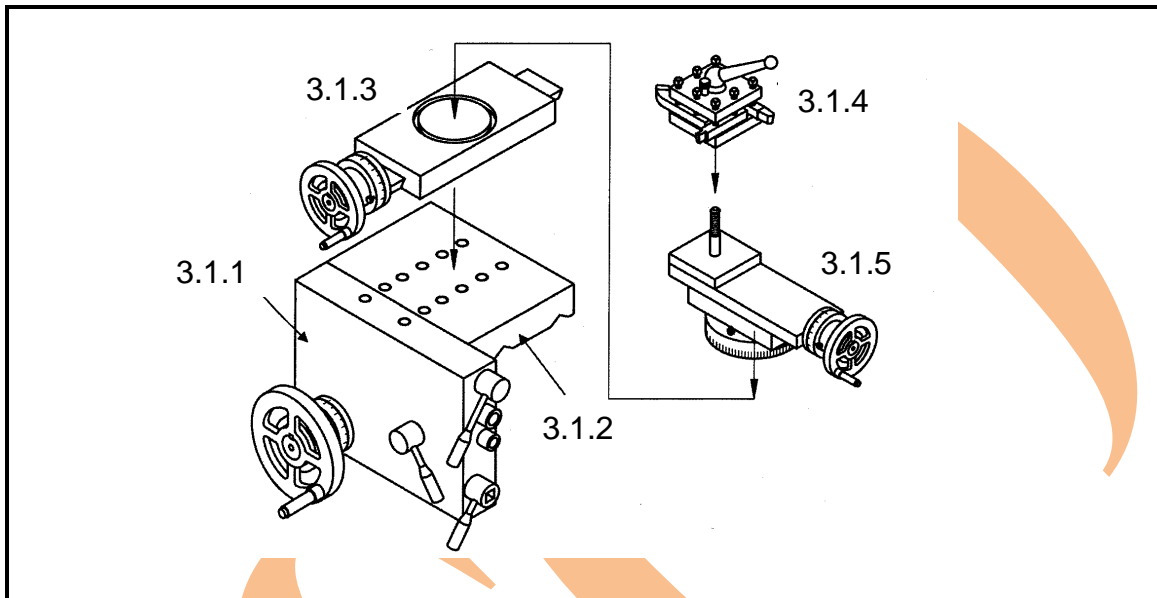

FIGURE 5
3.1 The carriage is the assembly of various parts of the lathe that can be traversed along its bed. FIGURE 5 below shows some of these components.